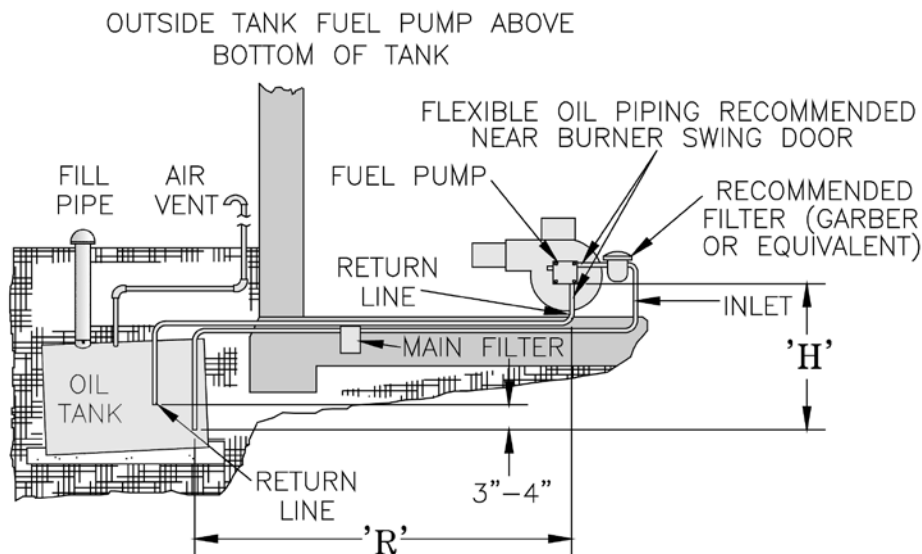

Figure 30: Two Pipe Oil Lines
- For two piped systems, where more lift is required, the two-stage fuel unit is recommended. Table 7 (two-stage) and Table 8 (single-stage) show allowable lift and lengths of 3/8 inch and 1/2 inch OD tubing for both suction and return lines. Refer to Figure 30.